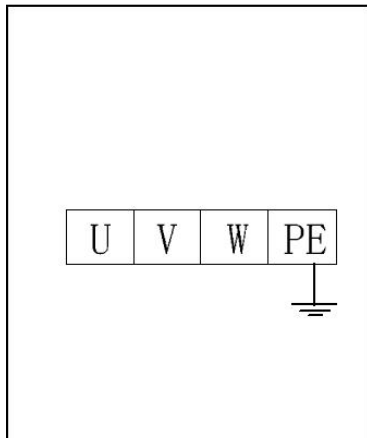

Fig. 9
- Connection of power line: Connect the 380V three-phase four-wire power line (cable of $3 \times 2.5\text{MM}^2 + 1 \times 1.5\text{MM}^2$) to the control cabinet interfaces U, V, W and input terminal, and connect the PE grounding wire to the labeled grounding bolt firstly and then to the labeled grounding bolts at the bottom of the two platforms (Fig. 9, 10).